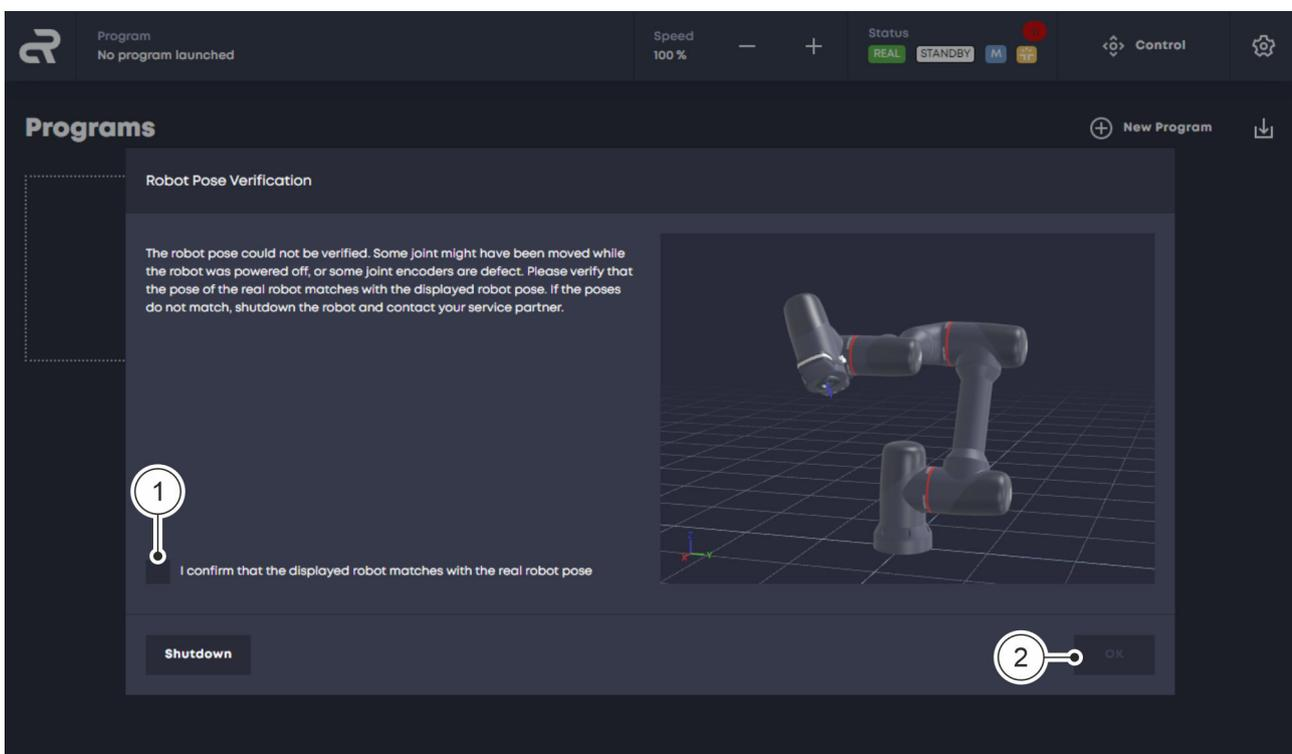

Fig. 44 Verifying the robot position
Select the checkbox Fig. 44/① and confirm with 'OK' Fig. 44/②.